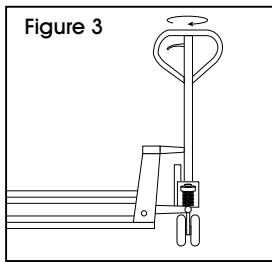

Figure 3
2. Turn the handle 90° (See Figure 3)